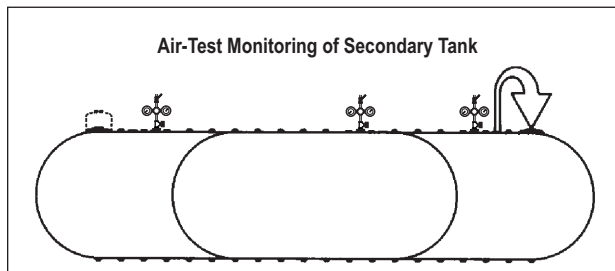

FIGURE 3-13
3.7.4.1. Attach the quick-disconnect hose assembly from the monitor fitting to the primary-tank service fitting (with a female quick-disconnect fitting in place). This will allow air to transfer to the interstitial space. (See FIGURE 3-4 and FIGURE 3-13.)